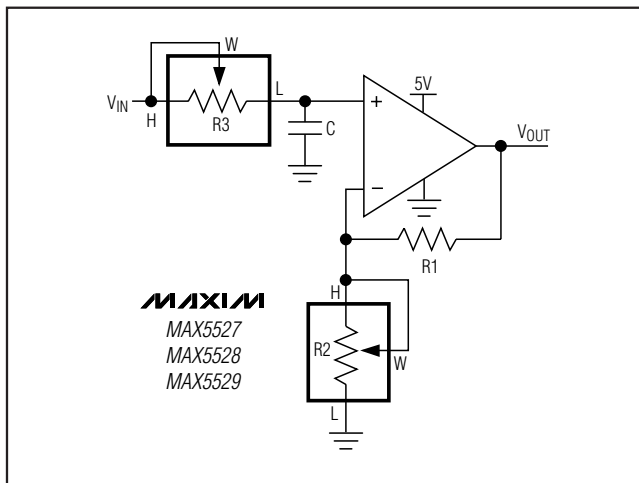

Figure 9. Programmable Filter
Figure 9 shows the configuration for a 1st-order programmable filter. The gain of the filter is adjusted by R2, and the cutoff frequency is adjusted by R3. Use the following equations to calculate the gain (G), and the -3dB cutoff frequency ( $f_C$ ), only up to frequencies one decade below the wiper -3dB bandwidth.